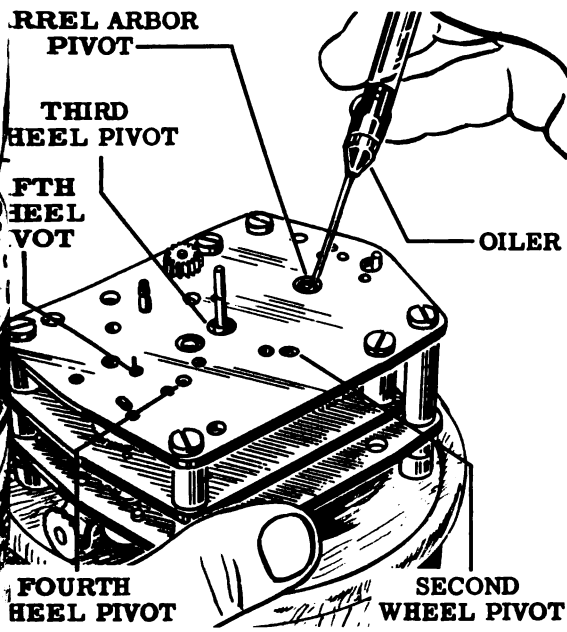

Figure 106—Boat and Deck Clock Movement
- A. In Boat and Deck Clock movements, also oil the lower pivot of the fifth wheel. See Fig. 106.